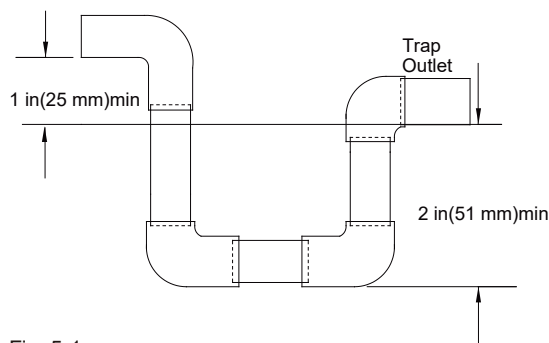

Fig. 5-1
5. Make sure that the outlet of the trap is at least 1 in. (25 mm) lower than the drain pan condensate connection to prevent the pan from overflowing (See Fig. 5-1).
See above Fig.5-1, disconnect the Connective Tube and Drain Commutator, screw off the two fixed screws of Drain Pan, and then along with the rail pull out the Drain Pan and Connective Tube from the bottom of evaporator. Using a wet cloth or water to wash out the drain pan carefully.